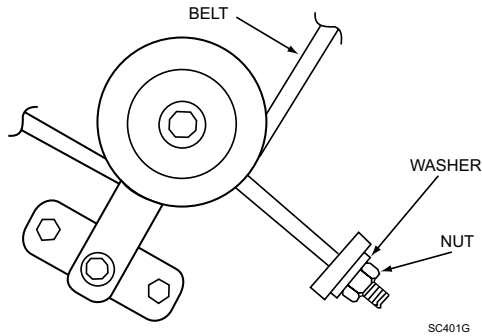
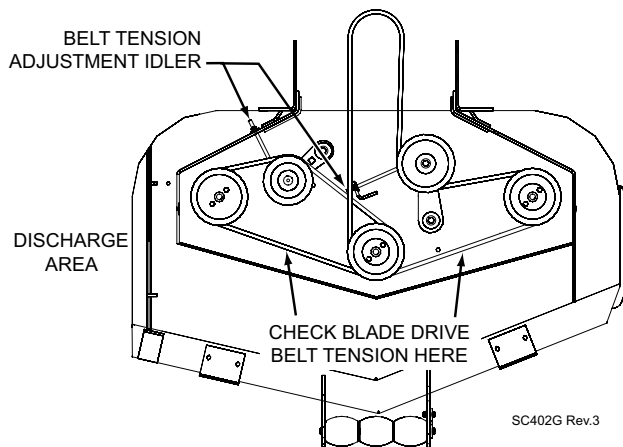

Figure 6-3. Cutter Deck Belt Adjustment R.H.
Figure 6-4. Cutter Deck Belt
3. Adjust the RH blade drive belt using a belt tension gauge. Adjust the belt so that the belt moves 1/2" with 10 pounds of pressure. Adjust the tension by tightening or loosening the J-bolt. See Figure 6-3 and Figure 6-4.